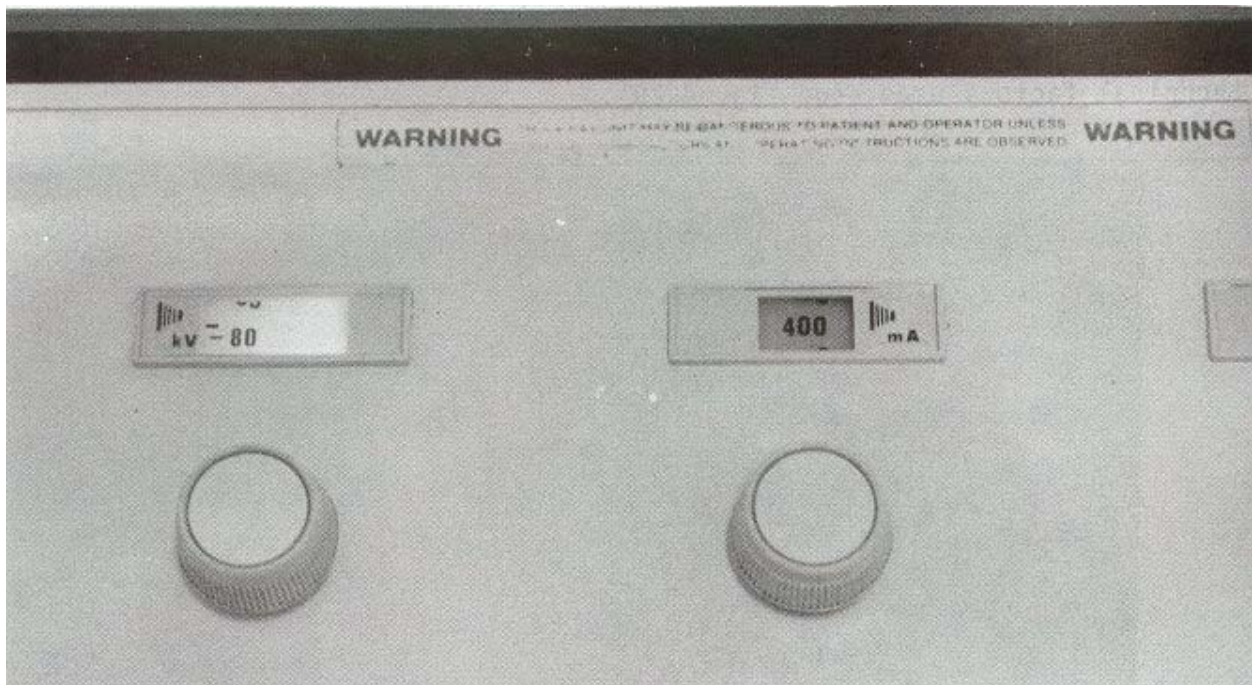

Figure 4-17. Machine factors are set.
- (1) 80 kVp.
- (2) Any mA station commonly used on an AET, for example, 400 mA (see figure 4-17).